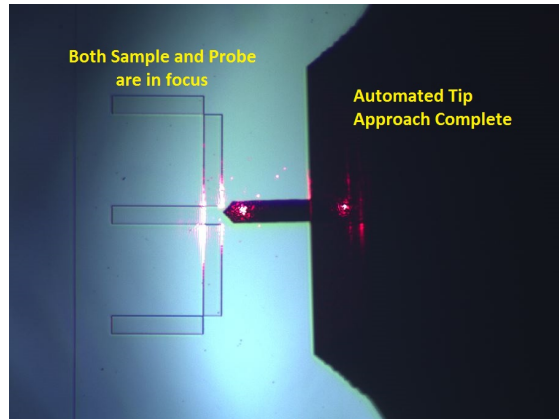

Figure 26: Tip Approach completed
4. Once the tip engages the sample, the **In-Feedback** indicator will turn on. Both the sample and the cantilever will be in focus (Fig. 26). If the **Z Drive (V)** is very close to the ± 10 V limit, do a **Re-Center** (be careful with the feedback parameters, see details in the video tutorial, including on **False Feedback**).